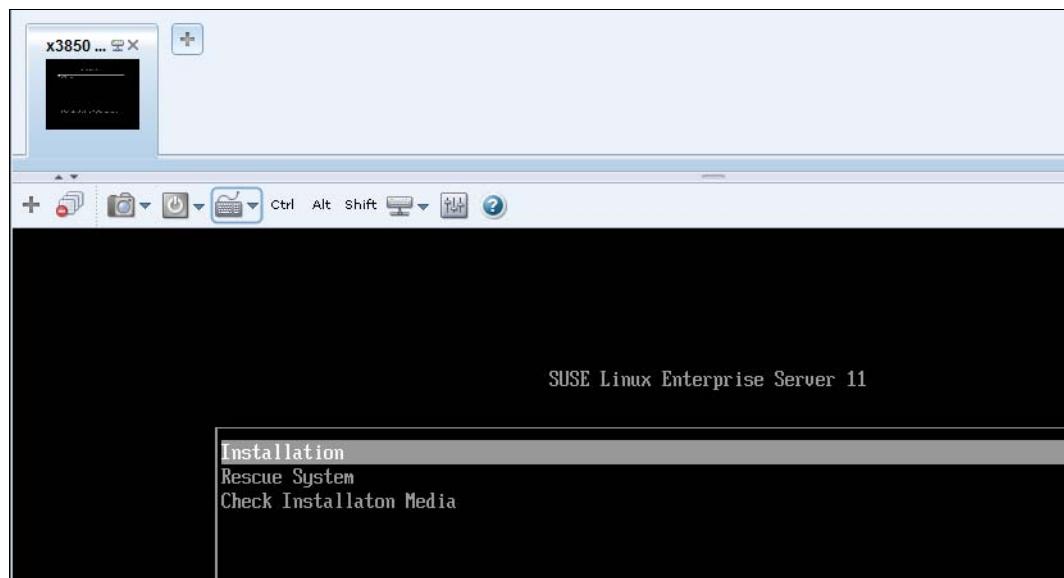

Figure 7-14 Remote control applet
2. The remote control Java applet appears, which provides virtual keyboard, video, and mouse to the server, as seen in Figure 7-14.